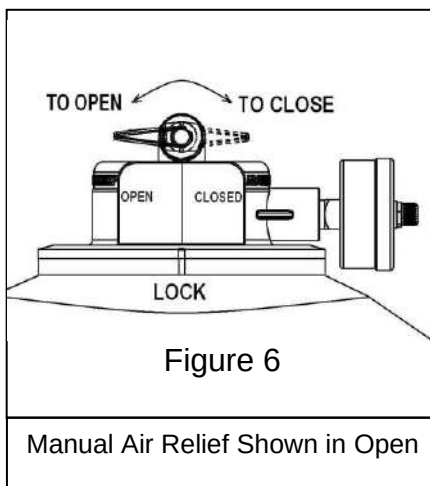

Figure 6
- The manual air relief valve must be placed in the OPEN position. (FIG 6)